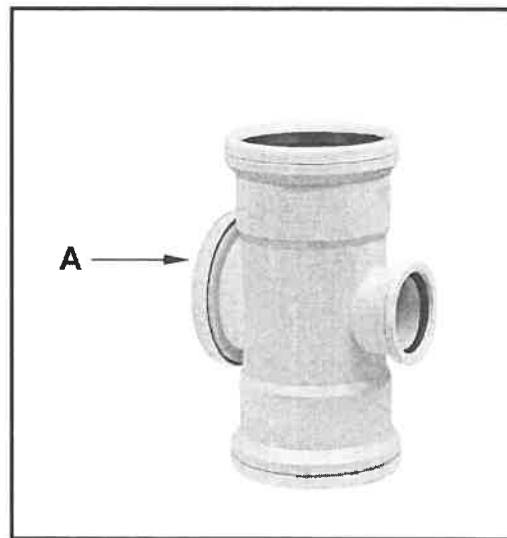

FIGURE 4.7
4.7 FIGURE 4.7 below shows a fitting that is used in a plumbing installation.